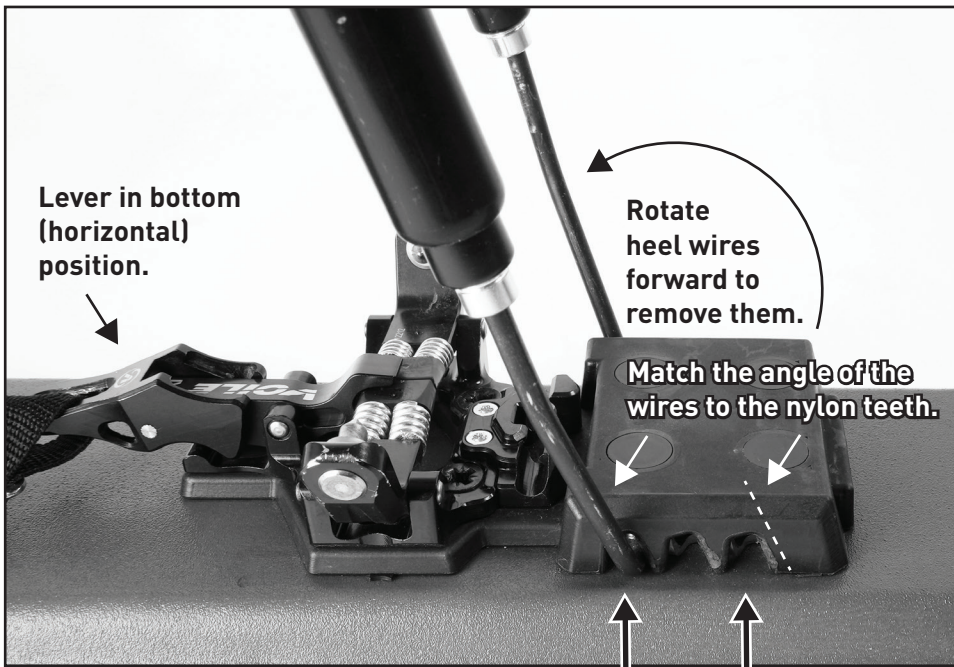

FIGURE 12
To exit the binding or to release the tech pins before stepping in, depress the lever fully to the bottom position. (SEE FIGURE 12)
- 1) Rotate the cartridge assembly forward (past vertical) toward the toe piece until the wire angle matches the nylon teeth of the toe riser (SEE FIGURE 12).